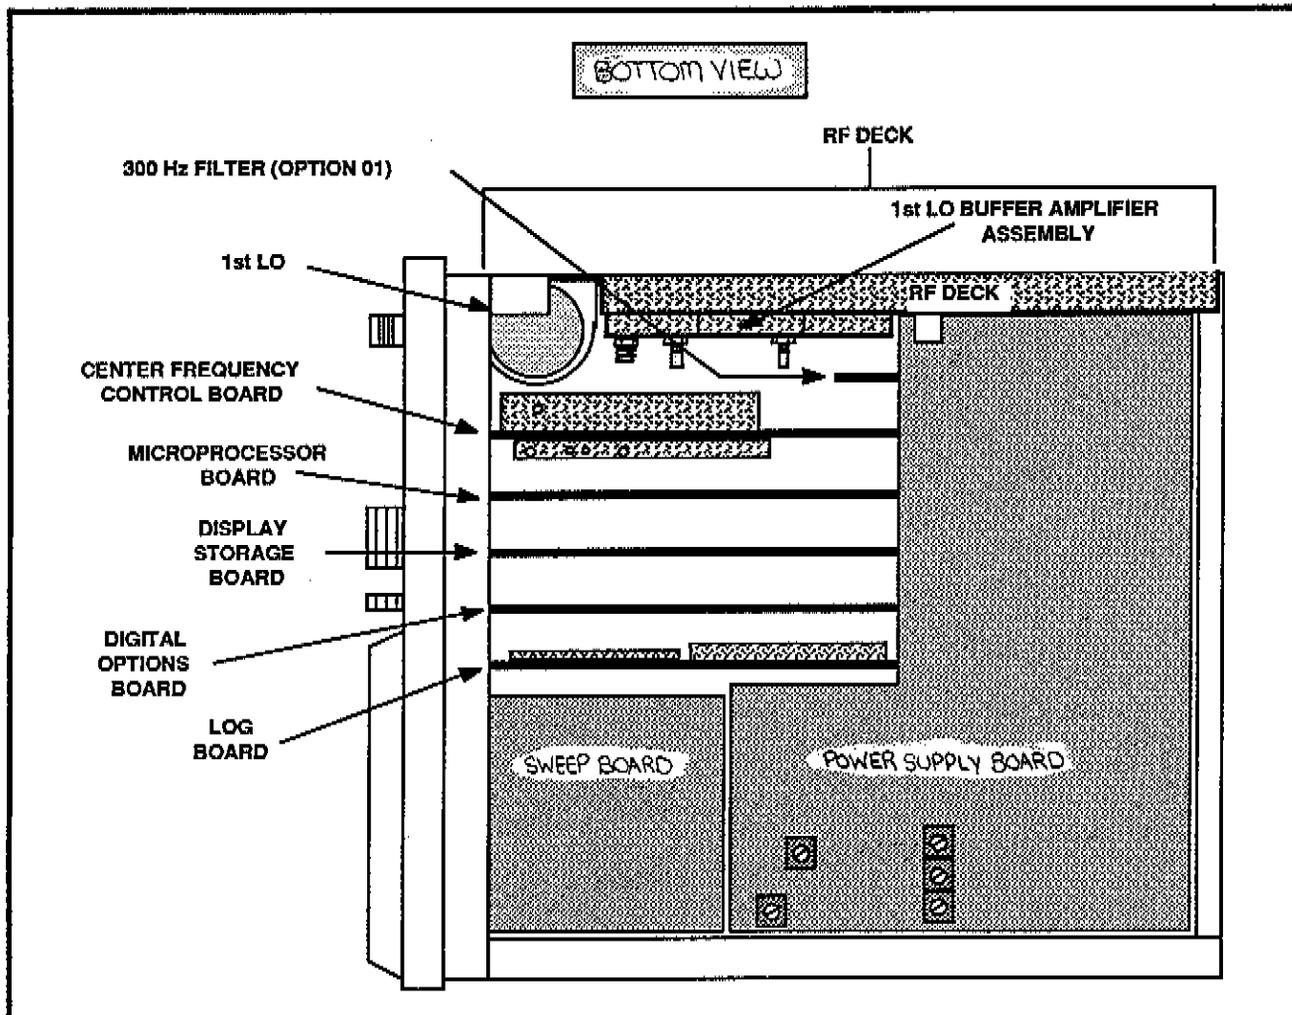
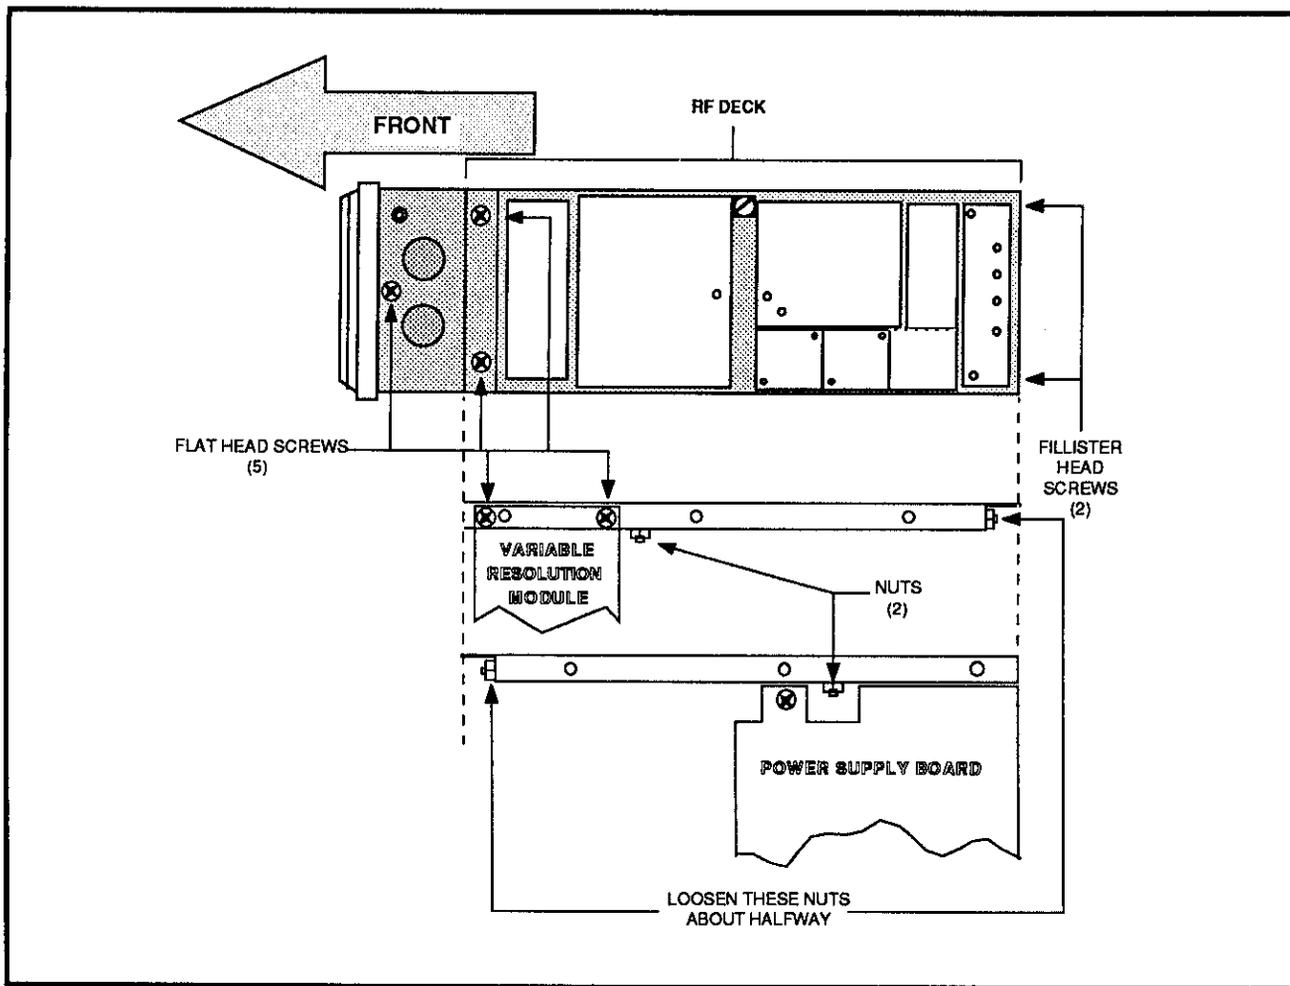

Figure 5-6. Assemblies seen from the bottom of the Spectrum Analyzer.
Figure 5-7. RF Deck screws and nuts.
6. Remove the seven screws and two nuts shown in Figure 5-7.
7. Loosen the two nuts shown in Figure 5-7.
1. Remove the RF Deck from the Spectrum Analyzer. See Figure 5-6 and Figure 5-7.